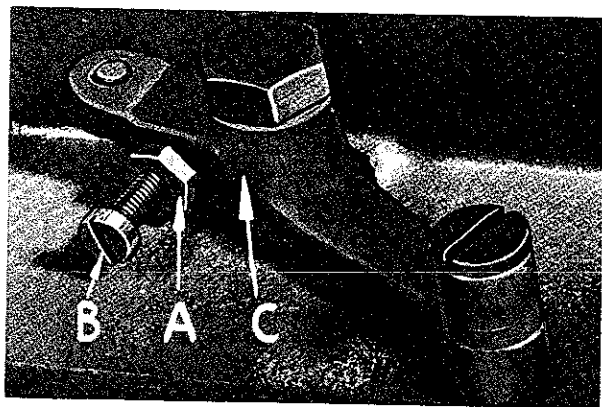
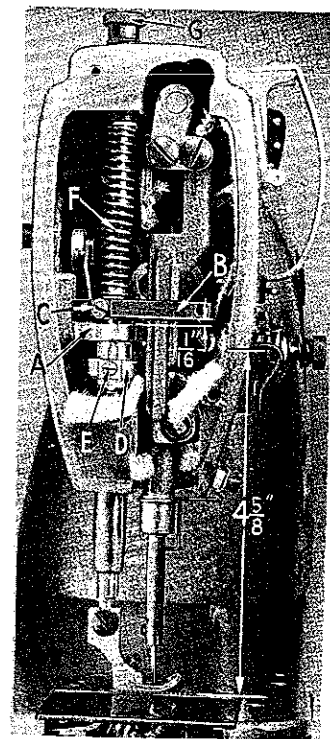
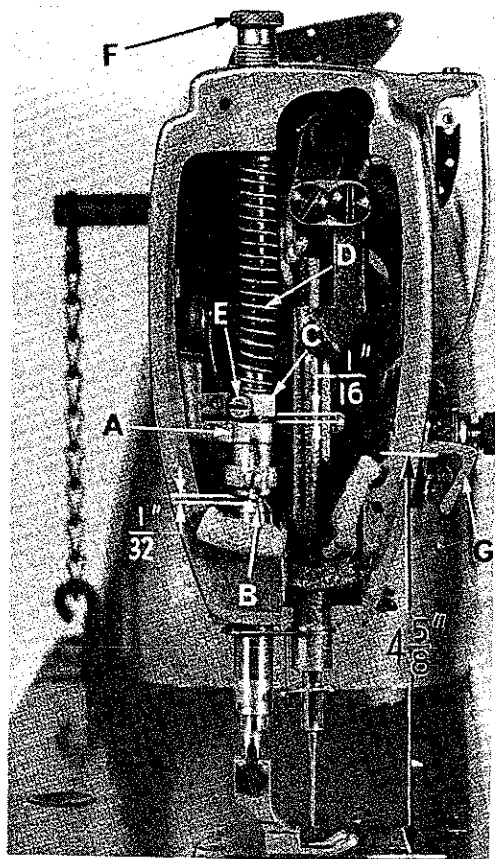

Fig. 15
Fig. 16
Fig. 16A
The presser spring should exert only enough pressure to make the work feed uniformly. To increase the pressure on the presser foot, turn presser spring regulator (G, Fig. 16) in clockwise direction. Turning the regulator counterclockwise decreases the pressure.
The presser bar connection (A, Fig. 16) should be set so that it is about 1/16 inch below the presser bar guide (B). This is accomplished by tipping the machine back against the rest pin, loosening the lock nut (A, Fig. 15), and relocating the stop screw (B) on the lifter lever bell crank (C). By turning the stop screw to the right or left, the proper setting of the presser bar connection is accomplished. Tighten the lock nut (A) to lock the stop screw in place.
The presser bar connection (A, Fig. 16A) should be set so that it is approximately $\frac{1}{32}$ inch above the lower presser bar bushing (B, Fig. 16A). This is accomplished by tipping the machine back against the rest pin, loosening the lock nut (A, Fig. 15) and relocating the stop screw (B) on the lifter lever bell crank (C). By turning the stop screw to the right or left, the proper setting of the presser bar connection is accomplished. Tighten the lock nut (A) to lock the stop screw in place.
When locating the presser bar guide (B, Fig. 16), the presser foot must rest directly against the throat plate with the feed dog in its lowest position. The guide is set properly when there is a $4 \frac{5}{8}$ inch space between the underside of the needle thread take-up wire and the top of a thin (.085 inch thick) throat plate (Fig. 16).
When locating the presser bar guide (C, Fig. 16A) the presser foot must rest directly against the throat plate with the feed dog in its lowest position. The guide is set properly when there is a $\frac{1}{16}$ inch space between the guide (C) and the presser bar connection (A, Fig. 16A).
To obtain this setting, remove the pressure from the presser spring (D, Fig. 16A) and loosen set screw (E). Tap on presser foot to insure its being down on the throat plate. Set the guide to the $\frac{1}{16}$ inch dimension, center the foot by turning it so that the needle enters the middle of its slot and retighten screw (E) in the guide. Now apply pressure by turning the presser spring regulator (F) clockwise.
Set the needle thread pull-up bracket (G) so that the underside of the wire is $4 \frac{5}{8}$ inches above the throat plate (Fig. 16A).
The tension release should be set so that it will not release when sewing over seams or when the presser foot is raised for back tacking. The adjustment of the tension release cam (D, Fig. 16) and the in and out position of the tension assembly are required for proper operation.
The tension release cam (D, Fig. 16) should now be positioned by loosening set screw (E, Fig. 16) and then raising or lowering the cam to suit the sewing conditions. The average release point is between 1/4 and 5/16 inch of presser foot lift above the throat plate. Tighten tension release cam set screw securely.